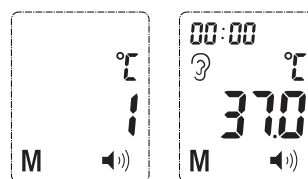

Figure 9
2. The thermometer will automatically memorize the last 30 temperature readings. Each memory also records the measurement date/time/mode icon. Each time the *M* *BUTTON* is pressed, the memory number adds one and shown on the screen, After releasing the *M* *BUTTON*, the screen shows another memory. The number 1 reflects the most recent reading, while the number 30 reveals the oldest reading stored in memory.(See Figure 9)